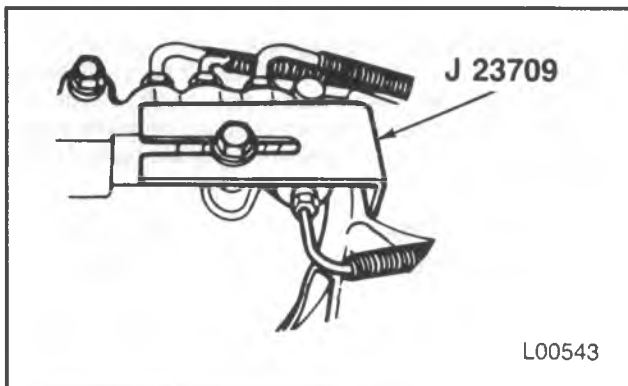

Figure 1 — Using Combination Valve Depressor
2. Use J 23709 to depress and hold the valve stem on the combination valve during the bleeding operation (figure 1).